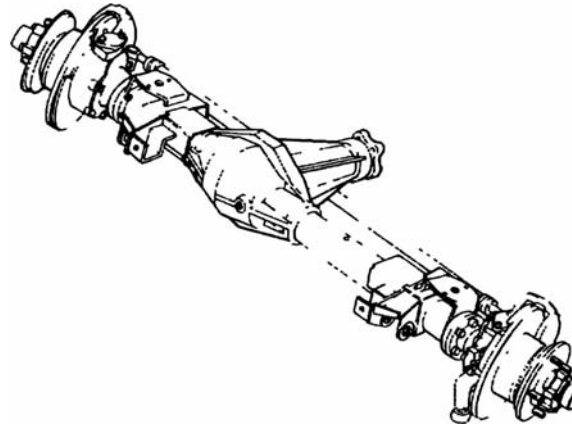

Figure 10 Front Axle Assembly
**38.** The steerable front drive axle (Figure 10) comprises a differential assembly, two axles (half shafts) and two steerable drive-ends (Figure 11). The differential is housed in a removable carrier and comprises a crownwheel and pinion, side gears, four planetary bevel gears and a shaft, which locates the planetary bevel gears and also forms the axis about which the planetary gears rotate. The axle shafts comprise an inner shaft splined at both ends with a constant velocity joint and stub axle fitted to one end. Steerable drive-ends are flange-fitted and bolted to the axle housing. These drive-ends enclose the Birfield constant velocity joints and provide the fulcrum about which the front hubs and wheels can be turned. A flange which is spline-fitted to the end of the stub axle and bolted to the wheel hub, transmits the drive from the differential to the hub and wheel. The hub is supported on two tapered roller bearings and held in position on the steerable drive-end yoke spindle by an adjusting nut and a locknut.